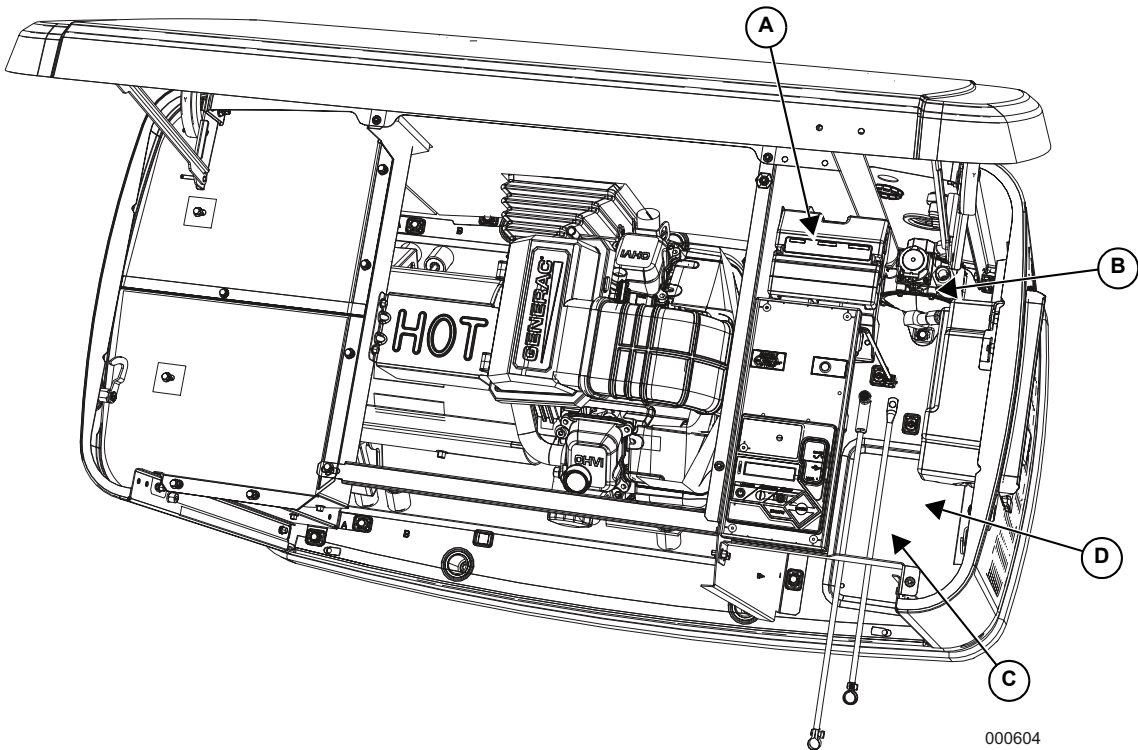

Figure 2-5. Customer Connection Area/Loose Parts Location
- 9. Figure 2-5 illustrates the following: